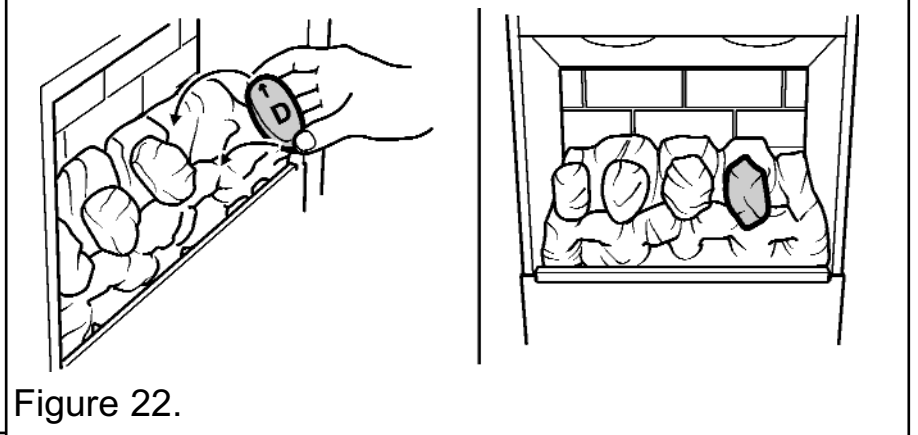

Figure 22.
5. Hold coal 'D' upright with the arrow pointing to the top. Locate coal 'D' as shown in figure 22.